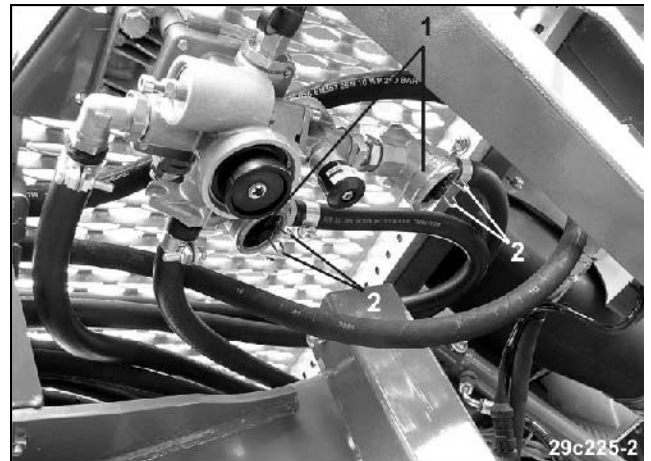

Fig. 46
Clean the two hose filters (Fig. 46/1) every three months (in case of operation in difficult conditions). Proceed as follows
- Press together both straps (Fig. 46/2) and remove the cap with O-ring, pressure spring and filter insert